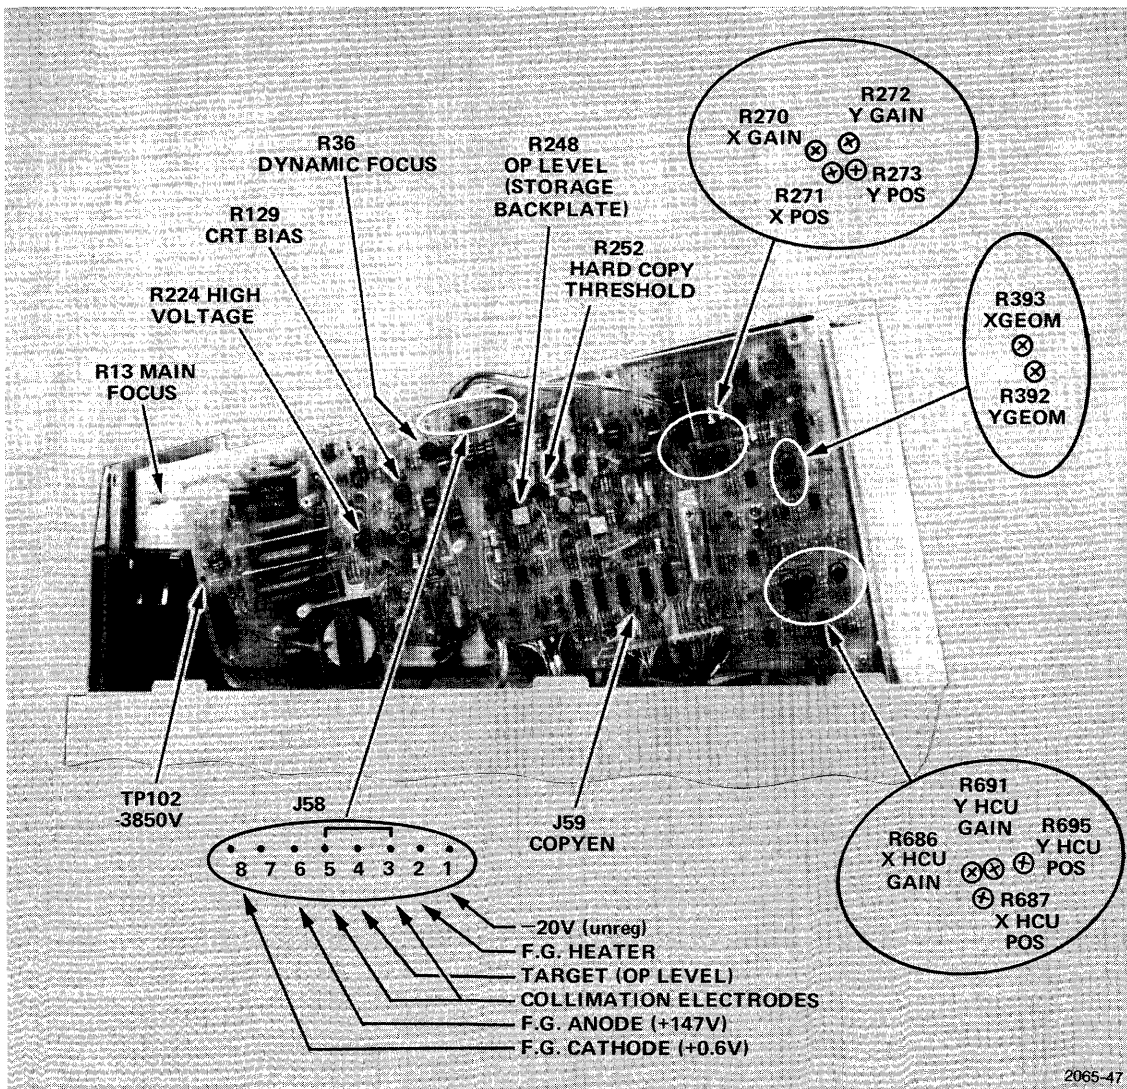

Fig. 4-3. Display board check points and adjustments.
1. Power down. Remove the high voltage shield and connect a negative high voltage probe to TP102 on the rear of the display board (Fig. 4-3). Ground the meter to chassis or to the power supply ground pin. Power up, and adjust R224 for approximately  $-3850\text{ V}$ . Power down, and remove the probe.
3. Move the probe to J58-4 (Fig. 4-3) and adjust R248 for proper storage backplate voltage (op level). This level should be about 200 V (or as specified on the crt shield).
8. Connect the scope probes to TP255 and TP257 (Fig. 4-3). Set vertical deflection to 0.5 V/cm, non-inverted. Set sweep rate to 0.5 ns/cm. Set both inputs to ground and position both traces to the second horizontal graticule line from the bottom. Switch both inputs to dc.